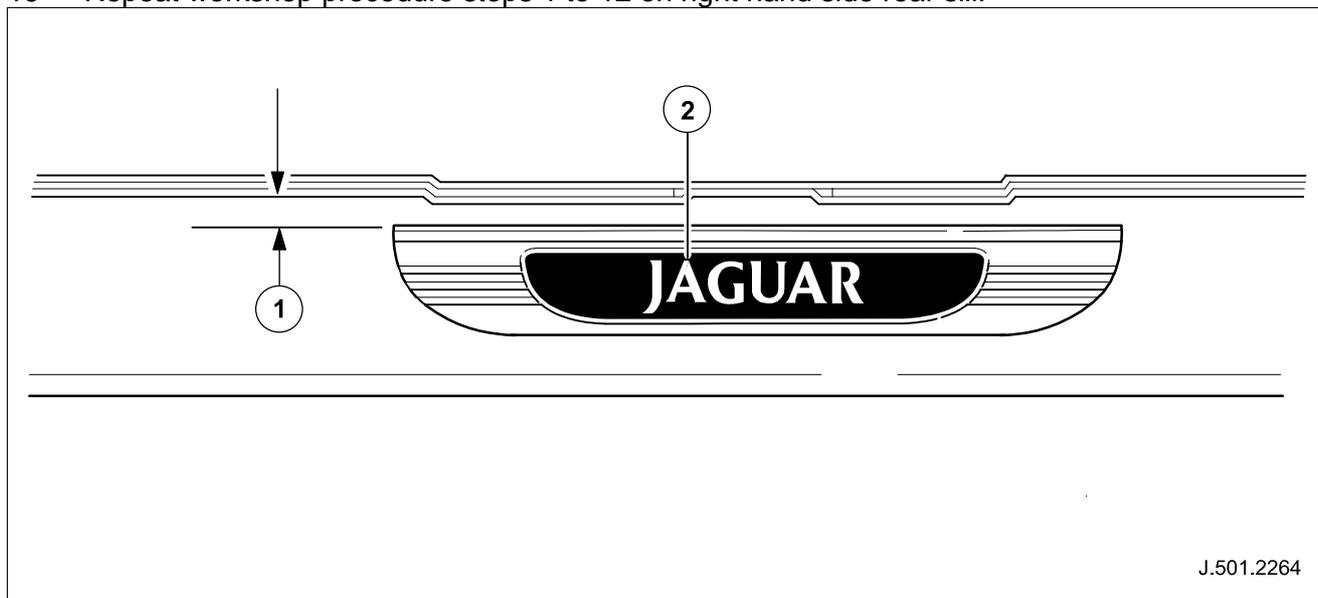

Fig. 3
- 20 Measure 10mm from the sill aperture flange across the sill. (See item 1, Fig. 3)
23 Using the new sill tread plate, align the first 'A' in Jaguar emblem with sill aperture flange rear edge and install tread plate to sill. (See item 2, Fig. 3)